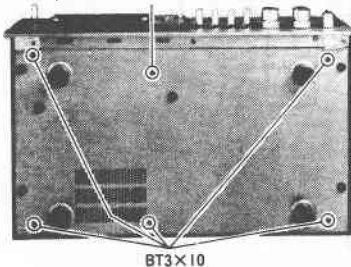

Fig. 3 Abb. 3
4. Bottom cover (Fig. 3)
9. Cassette chassis (Figs. 3, 10)
Remove the 5 cassette chassis installation screws shown in the figures 3 and 10.
4. Bodenplatte (Abb. 3)
9. Cassetten-Chassis (Abb. 3, 10)
4. Plaque inférieure (Fig. 3)
9. Châssis de magnétocassette (Fig. 3, 10)